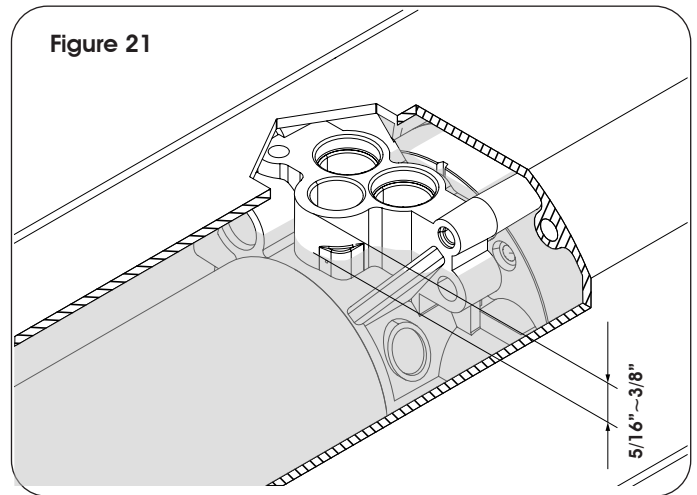

Figure 21
- The fluid should be 5/16" to 3/8" from the top of the valve body as shown in Figure 21